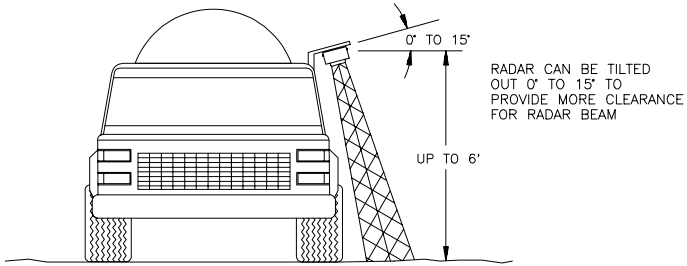

FIGURE 10
- b) The Radar lens must be parallel to the ground from front to back. Radar can be tilted out 0-15 degrees to provide more clearance and miss obstructions. See Figure 10.